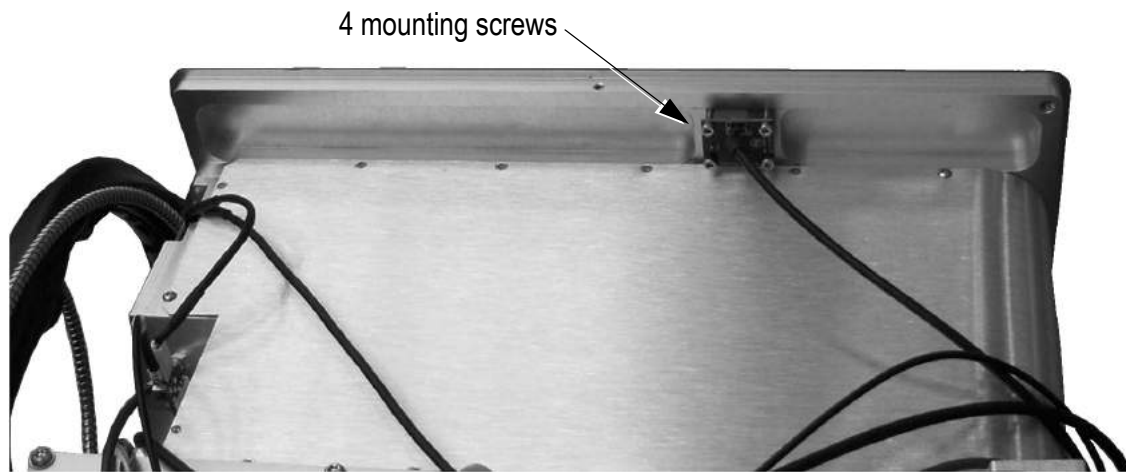

Figure 5.18-1. Emission LED Assembly Location and Mounting Screws
4. Refer to Figure 5.18-1 below. Using a 2.5 mm hex wrench, unscrew the 4 allen head screws holding the PCB assembly to the wall.